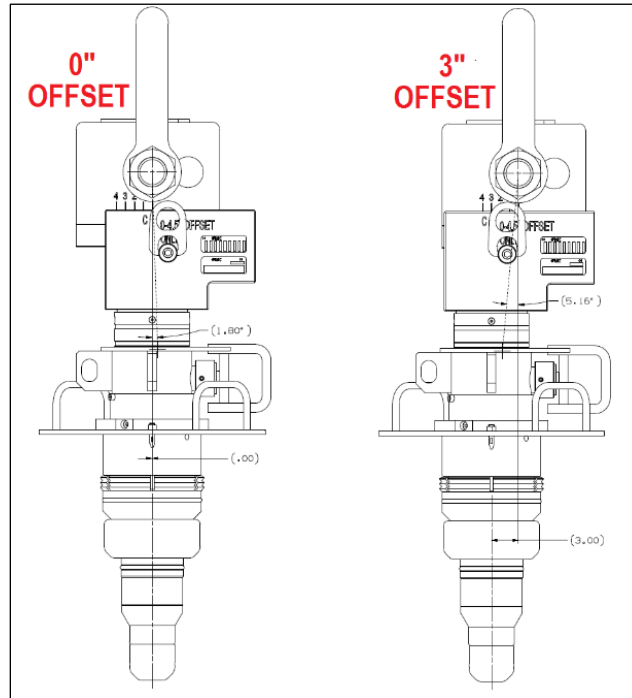

Figure 12: 0" to 3" offset
- For 0" to 3" offsets, counterweights are not required. Leave counterweights parked on shipping stand. See Figure 12.